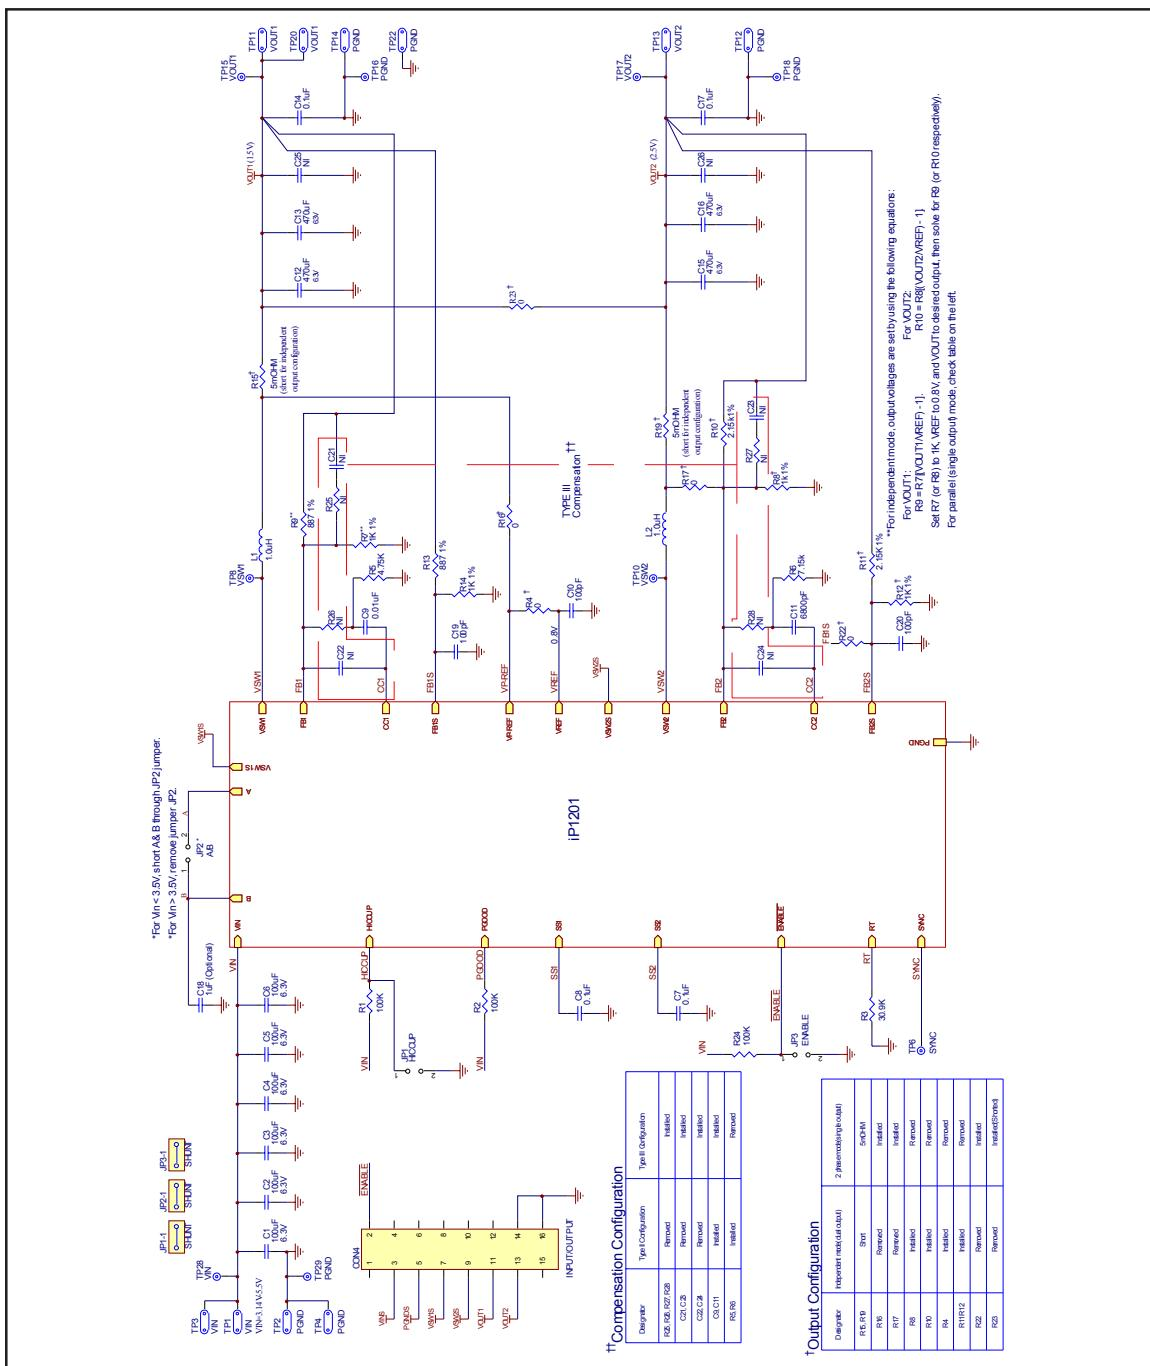

Fig. 6 - Reference Design Schematic
The iP1201 is fully optimized solution for medium current synchronous buck applications requiring up to 15A or 30A. In this document, Fig. 1, 2, 3 and 4 are provided to enable engineers to easily evaluate the iP1201 in an independent and parallel configuration that is capable of providing up to 15A per phase with double-sided heat sinking. Fig. 6, 7 and 8 and the complete bill of materials in Table 1 are provided as a reference design to enable engineers to very quickly and easily design a dual phase converter. In order to optimize this design to your specific requirements, refer to the iP1201 data sheet for guidelines on external component selection and user adjustable limits and specifications. Custom designs may require layout modifications.
- For paralleled single output operation see Fig. 6 for configuration table in reference design schematic.